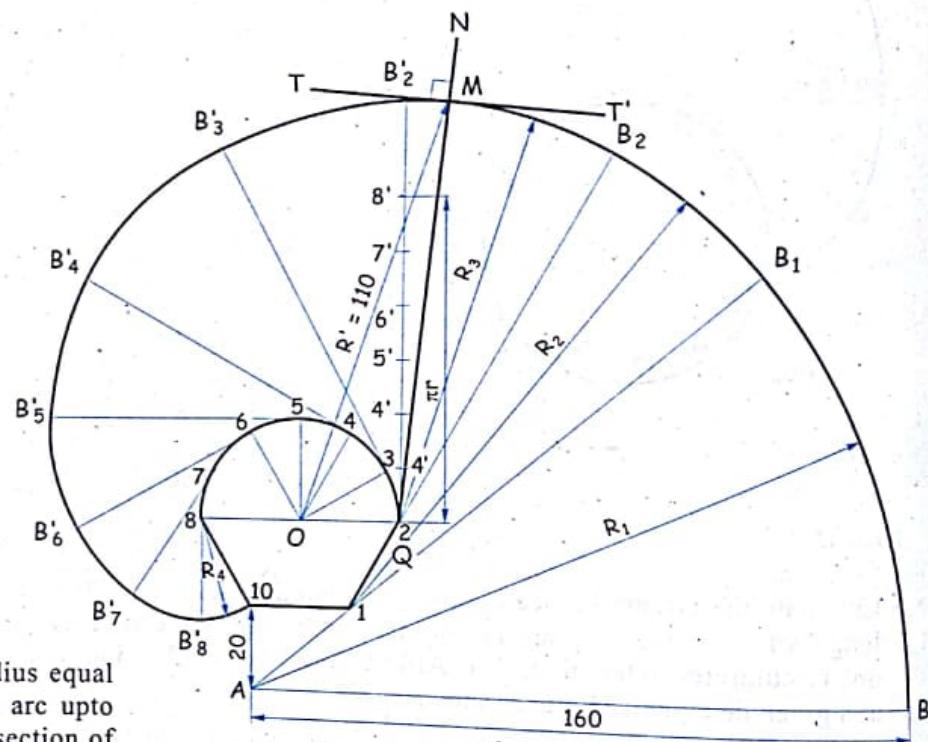

FIG. 2.14(b)
1. Redraw the figure 2.14 (b) with scale.